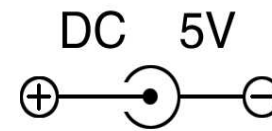

Fig.2-17 Power Polarity Sketch Map
2. Cut the paper end like Fig.2-14 shows. For paper roll placed inside the case: As Fig.2-15 shows, place the paper roll outside the print shell first, then insert the paper end downwards into paper-in slot on rear of printer mechanism. It is unreasonable Fig.2-16 shows that insert the paper end upwards into. For paper roll placed outside the case: As Fig.2-17 shows, firstly put paper through the narrow orifice that is at the back of printer shell, then make paper face the paper-in slot.
For WH printers, the column end is positive pole (+), and the board end is negative pole (-), as shown in Fig.2-17